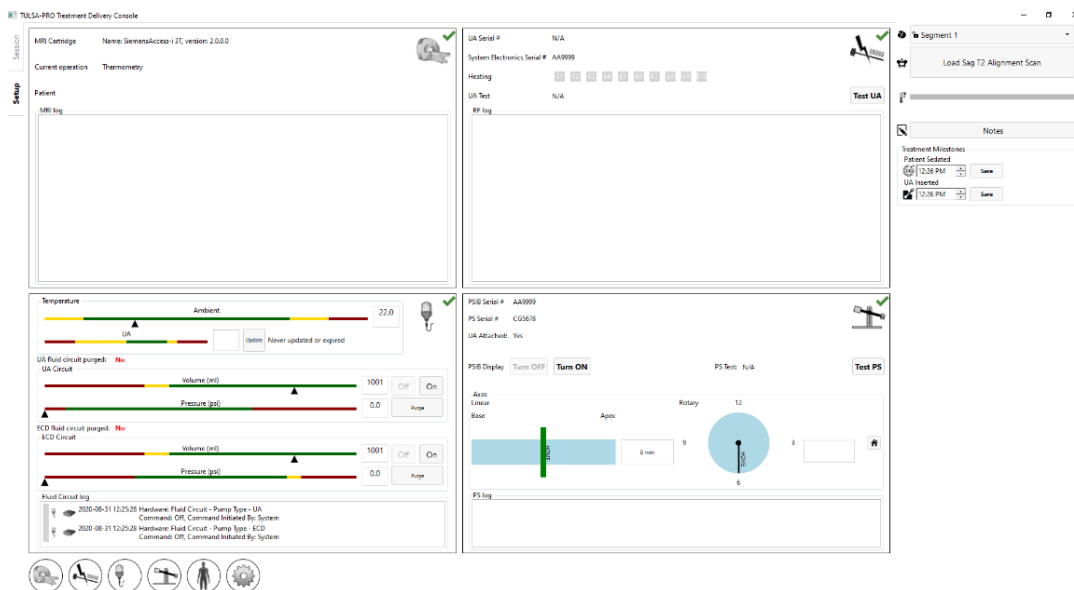

Figure 4: Setup workspace of the TDC software
2. After selecting **New Session**, you will enter the **Setup** Workspace (Figure 4) where you can ensure all equipment is functioning properly before proceeding. A green checkmark will appear in the MRI quadrant of the Setup Workspace if the TDC computer and MRI host can communicate with each other, and a patient is currently open with the TULSA-PRO® MRI sequence protocol on the MRI console.